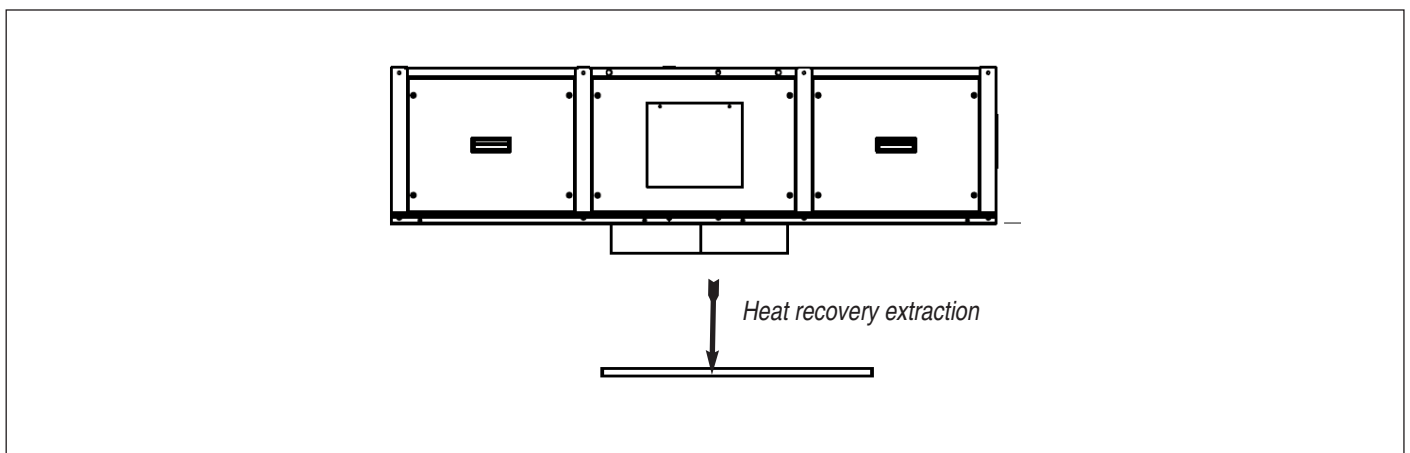

fig. 20
- Check the heat recovery extracting it after disassembling the bottom panel (see fig. 20). Remove with the vacuum cleaner or compressed air the dust that can be present inside the heat exchanger and verify that there are no foreign object.